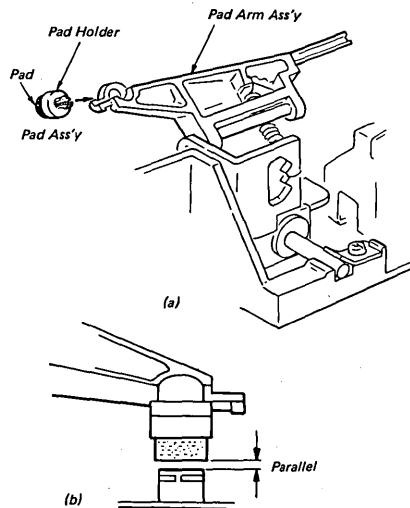

Fig. 4-6 Pad Ass'y Replacement
- b. Lifting the pad arm tip so that any excessive force may not be applied to the pad arm ass'y, remove the pad ass'y by pressing its rear part. (Refer to Fig. 4-6 (a))
- a. Pick up pad holder (not pad itself) of pad ass'y lightly and insert pad ass'y into the location on pad arm ass'y. (Refer to Fig. 4-6 (a))
- b. Pull down the pad arm ass'y, and check if the pad is arranged in parallel with the head as shown in Fig. 4-6 (b).